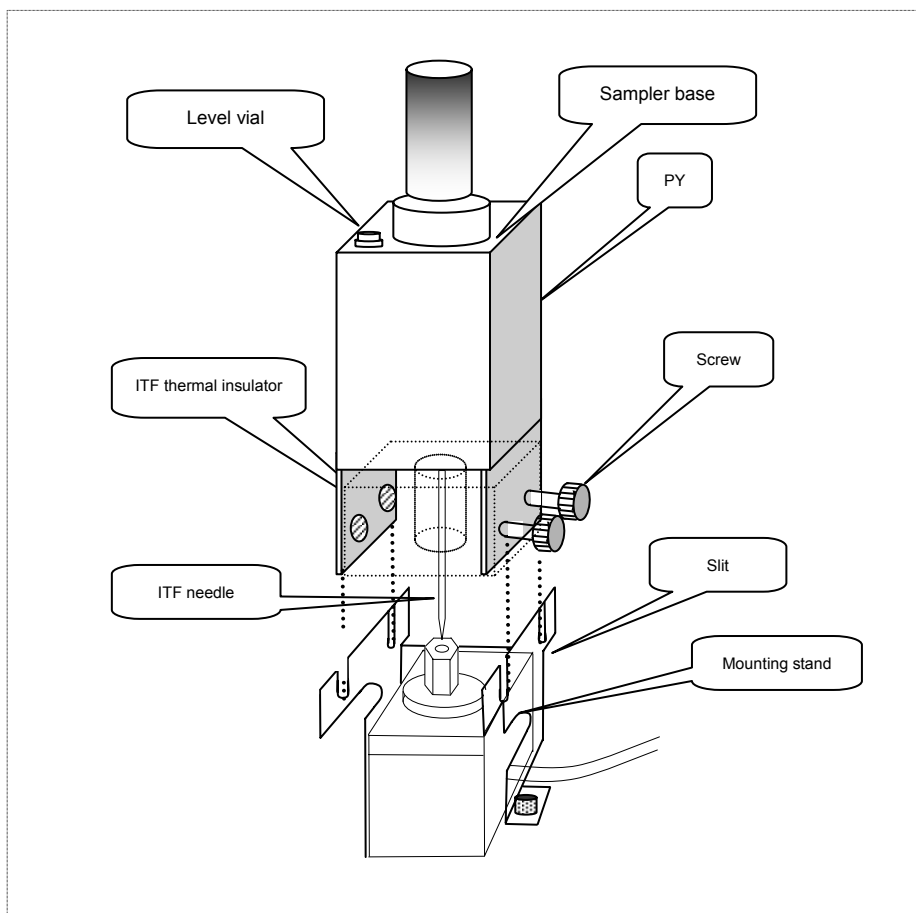

Fig.3.12 Mounting pyrolyzer
STEP 9 Attaching ITF thermal insulation cover (Fig. 3.12)
- (1) Allow the ITF needle to pierce straight into the GC injection port by lowering the Pyrolyzer. At this point, bottom four screws on both sides are engaged into the slots of the mounting stand seated on the GC (Fig. 3.12). Then tighten all four screws using the supplied Allen wrench, making sure that the Pyrolyzer stands in the upright position with keeping the sampler base in a horizontal position (recommended to use the level vial contained in the part box).
- (2) Run the carrier gas and check the column pressure.